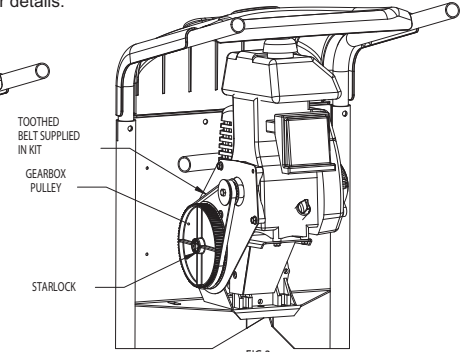

FIG 3. FITTING GEARBOX BOTTOM PULLEY AND SECURING WITH STARLOCK WASHER.
8. Fit the new gearbox pulley to the input drive of the gearbox and secure using the new starlock washer provided. See fig.3.